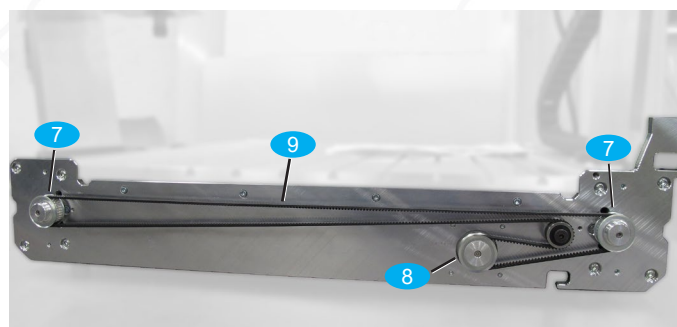

Fig. 24: Structure of the timing belt drive
- Put on the timing belt **9** as shown in Fig. 24.